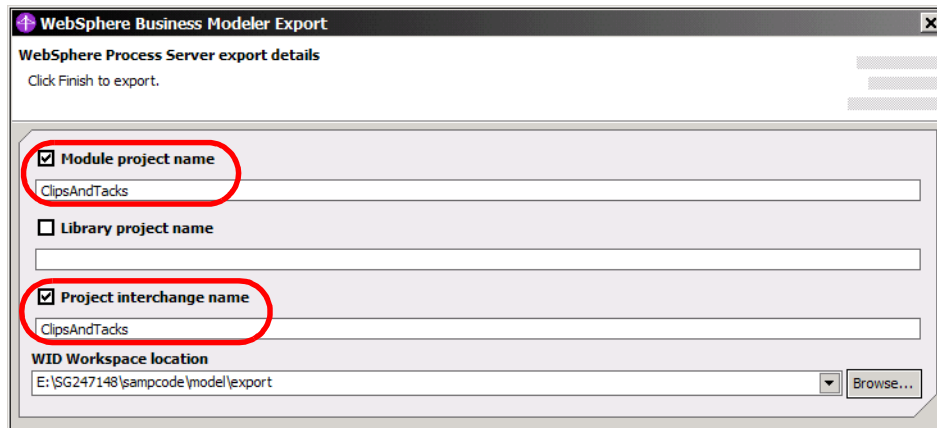

Figure 8-39 Export: WebSphere Process Server export details
- ▶ Define the destination and source information (Figure 8-39):
The WID Workspace location specified in Figure 8-39 contains the project interchange file, **ClipsAndTacks.zip**, that can be imported into WebSphere Integration Edition. The content of this file is described in “Exported file and content” on page 120.